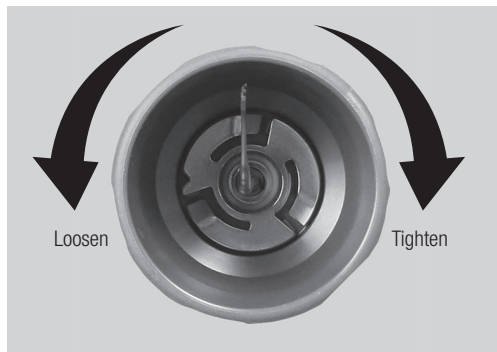
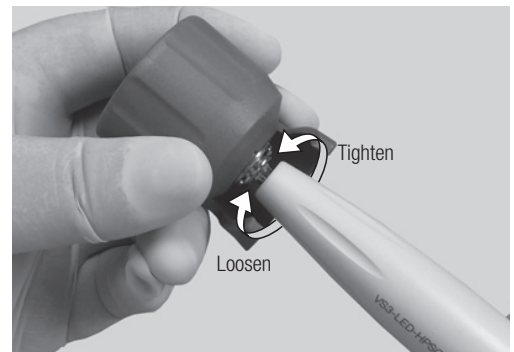

Fig. 17
Fig. 18
- 3) Rotate the wrench in the (clockwise) direction, (Fig. 17 and 18) until it makes a click sound and cannot rotate any further.
\* To remove the Tip, rotate the wrench in the (counter-clockwise) direction shown in Fig. 17 and Fig. 18.